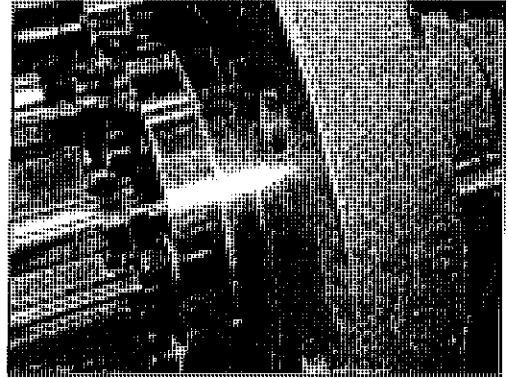
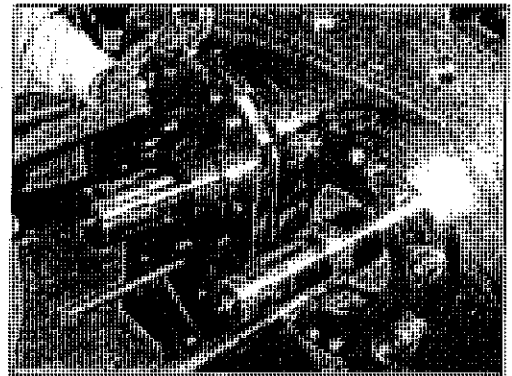

Fig. 3-26
Fig. 3-27
- (16) Install Thrust Bearing Box Cover (C07), (C08) (Fig. 3-27) together with Thrust Adjusting Plate (C11), (C12) (Fig. 3-26) to Discharge Casing (B03).